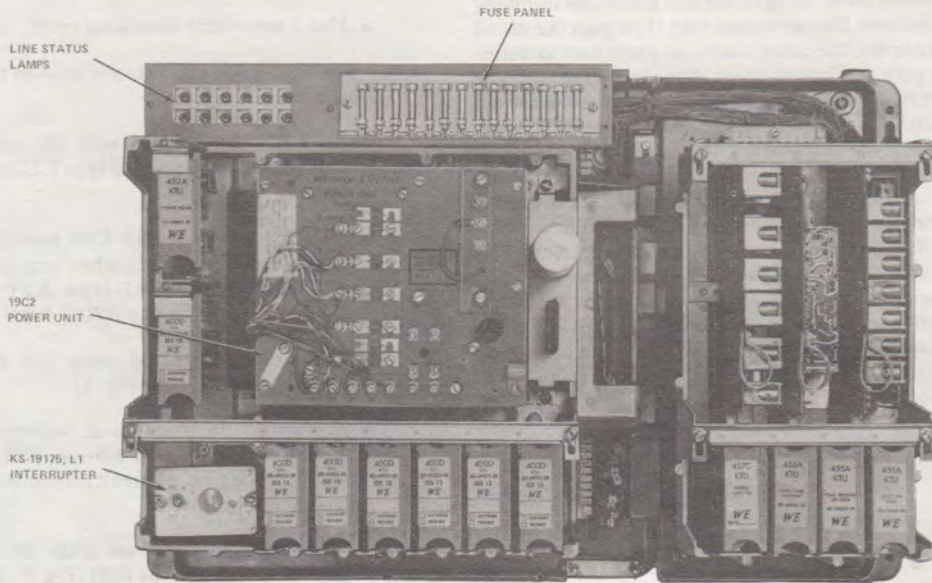

Fig. 1—570-Type KSU (Cover Removed)
2.04 The 570B KSU (Fig. 1) is the same as the 570A except:
- Redesigned fuse panel using fuse clips instead of fuse holders (Fig. 1)